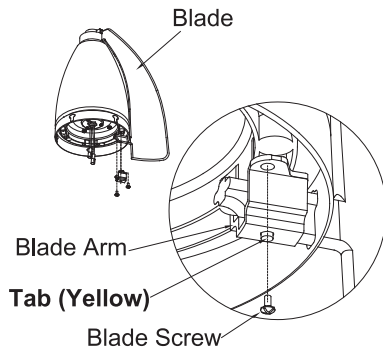

Fig. 9
**Step 2.** Carefully turn over the motor body with the bottom of motor facing up. Attach the blade arm to the flywheel and let the tab on the blade leg pass through the hole on the blade arm, as shown (Fig. 9). **Make sure yellow tab is visible through hole and metal bracket.** Align the two mounting holes on both side of blade arm with the holes on the flywheel and tighten them with truss head blade screws provided. Finally, tighten the two flat head blade screws in the ring. Repeat this procedure for the remaining Four (4) blades. (Fig. 9)